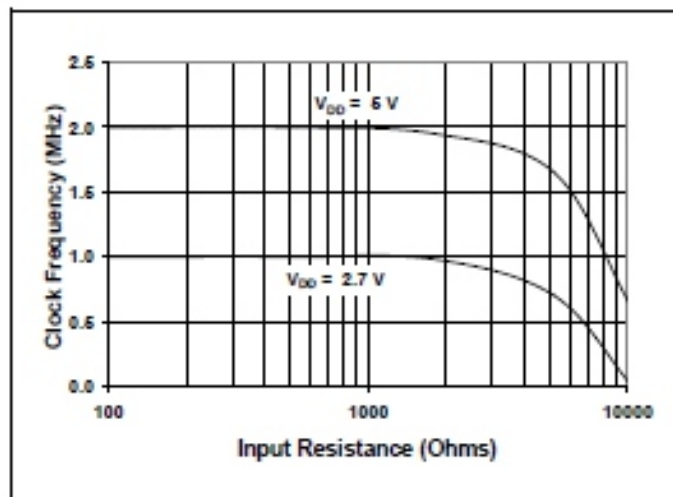

FIGURE 4-2: Maximum Clock Frequency vs. Input resistance (R_S) to maintain less than a 0.1 LSB deviation in INL from nominal conditions.
This diagram illustrates that the source impedance (RS) adds to the internal sampling switch (RSS) impedance, directly effecting the time that is required to charge the capacitor (CSAMPLE). Consequently, larger source impedances increase the offset, gain and integral linearity errors of the conversion (see Figure 4-2).